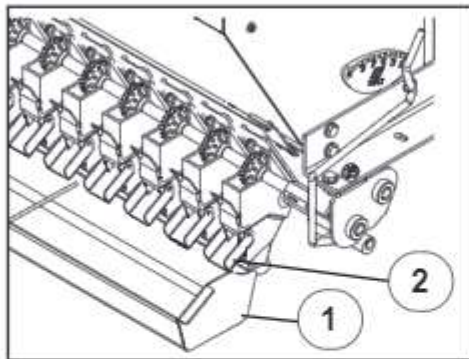

Fig 10
- 1 Remove the calibration tray from the storage brackets on the seedbox. Place the calibration tray (1) on the support members below the seeders (Fig 10).
- 2 Position all the clear plastic seed diverters (2) to redirect the seed into the calibration tray (Fig 10).